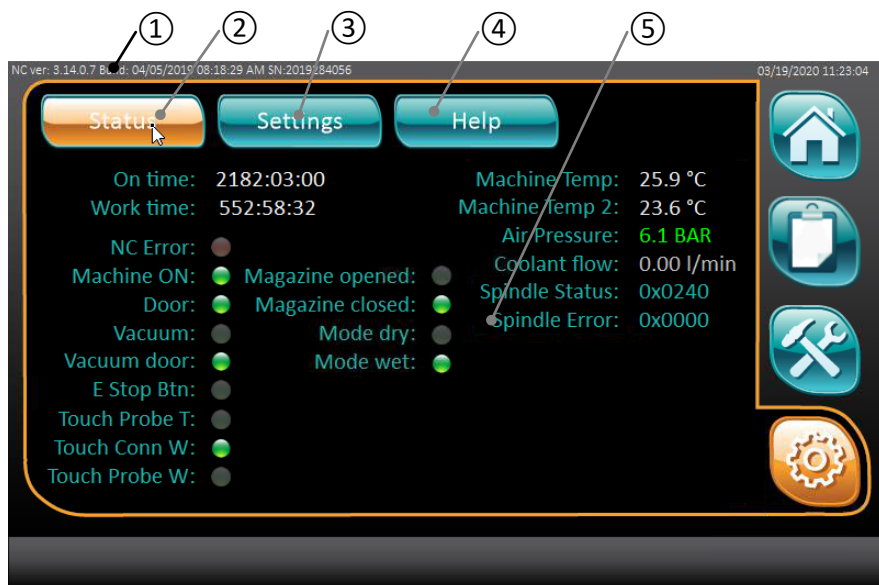

Figure 18 Status page
1. Touch  button [Figure 18 / 3].
button [Figure 18 / 2]!